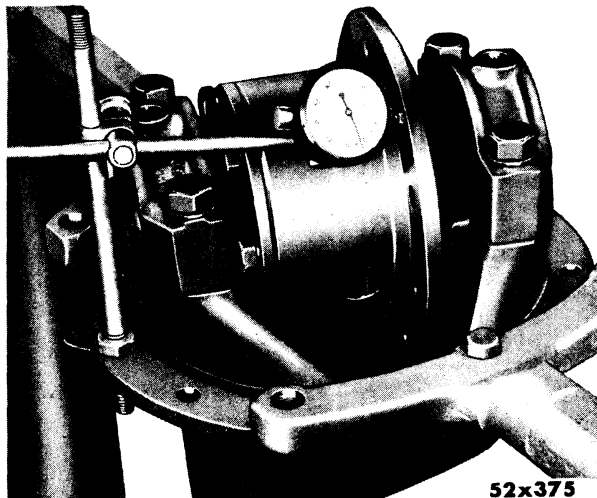

Fig. 19—Checking Ring Gear Mounting Flange Runout
- (1) Place differential case and drive gear assembly on bench, bend down locking tabs and remove drive gear to case attaching nuts and bolts.
- (2) Use a fiber hammer to tap drive gear off differential case.
- (3) Clean around differential case flange to allow for checking face runout.
- (4) Mount the differential case in the carrier. Assemble bearings, the adjusting nuts and bearing caps on carrier. Adjust and remove excessive play from the bearings. Mount a dial indicator on the carrier mounting face and check the ring gear mounting flange for runout, as shown in Figure 19.
- (12) Place the differential bearing cups over the bearings. Install complete assembly in the carrier housing.
- (13) Seat the adjusting nuts in the pedestals of the carrier housing and install the caps and bolts. **NOTE: Be sure the caps are on the same side from which they were removed.**
- (14) Mount a dial indicator, with the pointer resting against the back face of the ring gear and check the runout. Runout should be true within .005 inch, as shown in Figure 19.
- (11) Install the differential bearing cones on the case, using Tool DD-1004. Check the case runout, as shown in Figure 19.